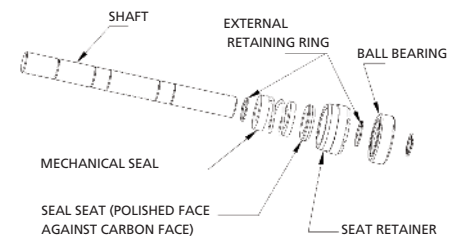

Figure 9. Shaft, bearing assembly
6. Slide the cover over the dowel pin and replace the screws. Alternate tightening screw from top to bottom and side to side (Check fig 9)